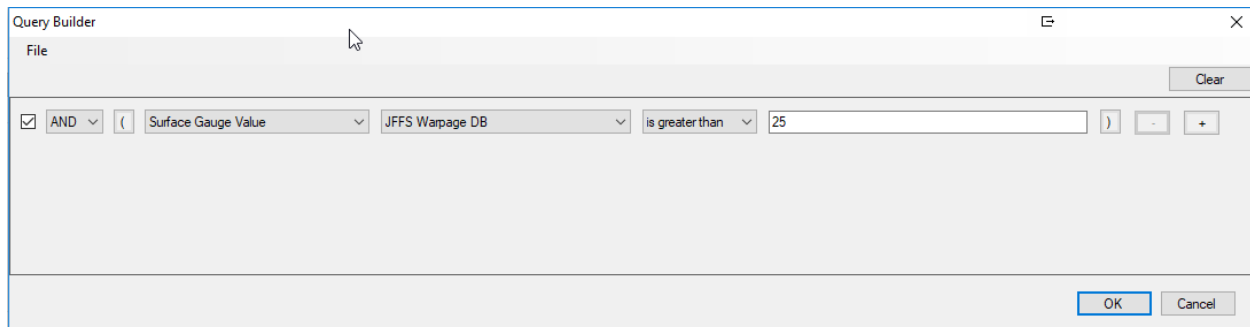

Figure 6.7 Metadata File Filter Query Builder
5. Filter out any data not desired using the Active Metadata File Filter option. Files can be unchecked from being Active by setting up filter/logic conditions in the Metadata File Filter Query Builder (**Figure 6.7**). File filter queries can be saved and loaded as *.akx_query files in the Query Builder interface for future use.